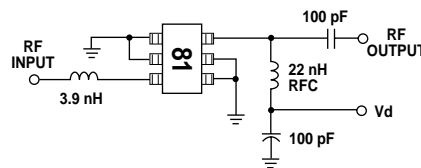

Figure 10. Test Circuit.
1. Guaranteed specifications are 100% tested in the circuit in Figure 10 in the Applications Information section.
The circuit shown in Figure 10 is used for 100% RF testing of Noise Figure and Gain. The 3.9 nH inductor at the input fix-tunes the circuit to 2 GHz. The only purpose of the RFC at the output is to apply DC bias to the device under test. Tests in this circuit are used to guarantee the  $NF_{test}$  and  $G_{test}$  parameters shown in the table of Electrical Specifications.
Like other active devices, the intermodulation products of the MGA-81563 increase as the device is driven further into nonlinear operation. The 3rd, 5th, and 7th order intermodulation products of the MGA-81563 are shown in Figure 19 along with the fundamental response. This data was measured in the test circuit in Figure 10.